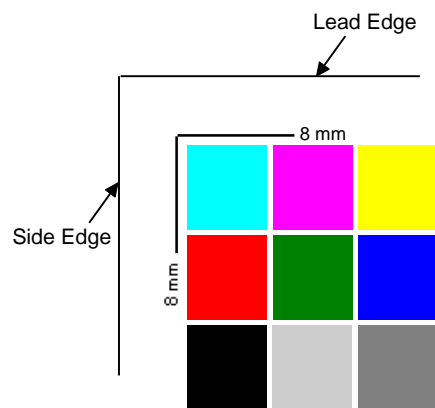

Figure 1. Margins Measurement
2. Figure 1: Measure the Margins.